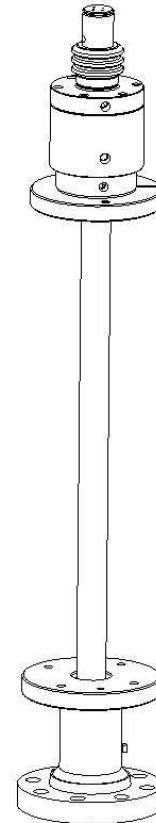

Figure 6 - Push the probe through the seal housing, so the head is within the recess of the seal housing.
- 2) Push the probe through the seal housing, so as the head is within the recess of the seal housing (Refer to *Figure 6*).